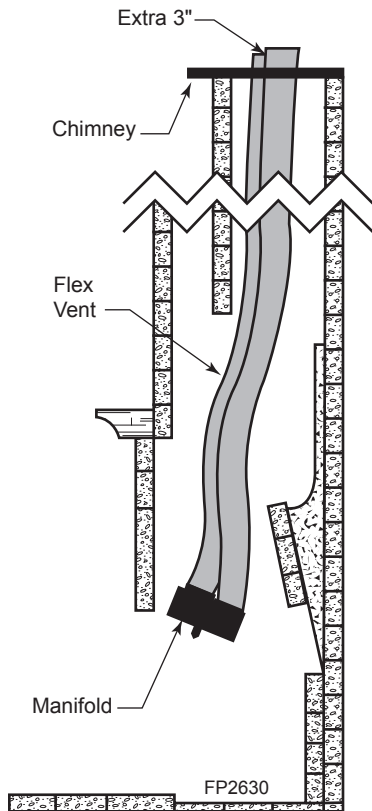

Figure 11 - Attach Flex Vent to Manifold
4. Attach flex vent to manifold. *Figure 11.* Seal with silicone and attach with screws.